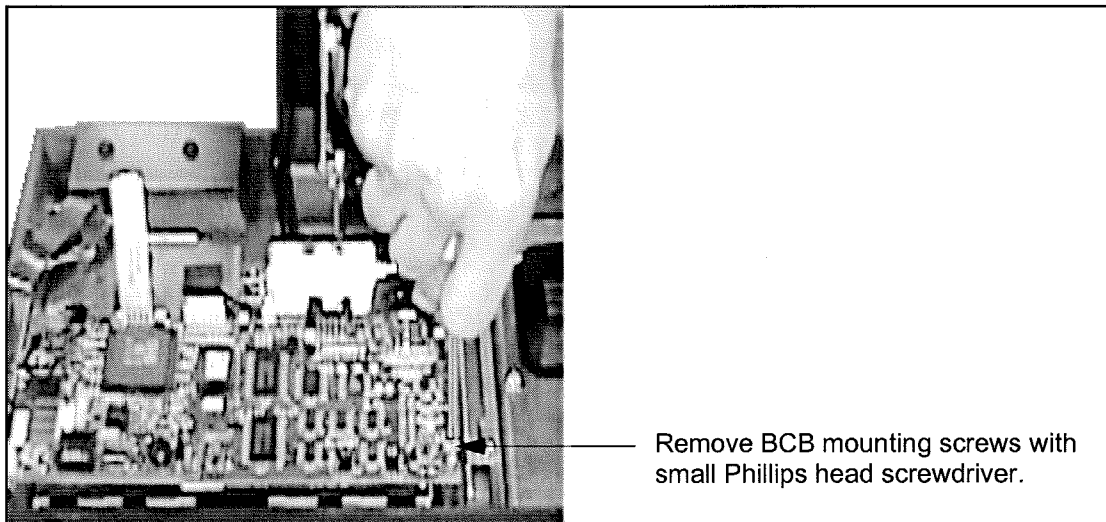

Figure B-2 Removing BCB Mounting Screws
5. With Phillips head screwdriver, remove all four Phillips head BCB mounting screws. See Figure B-2.